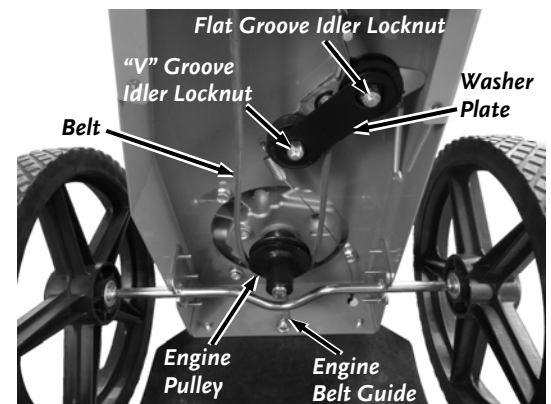

Figure 26
4. Loosen the Engine Belt Guide Locknut at the back of the Frame using a 7/16" Wrench (**Figure 26**) and rotate the Guide out of the way.